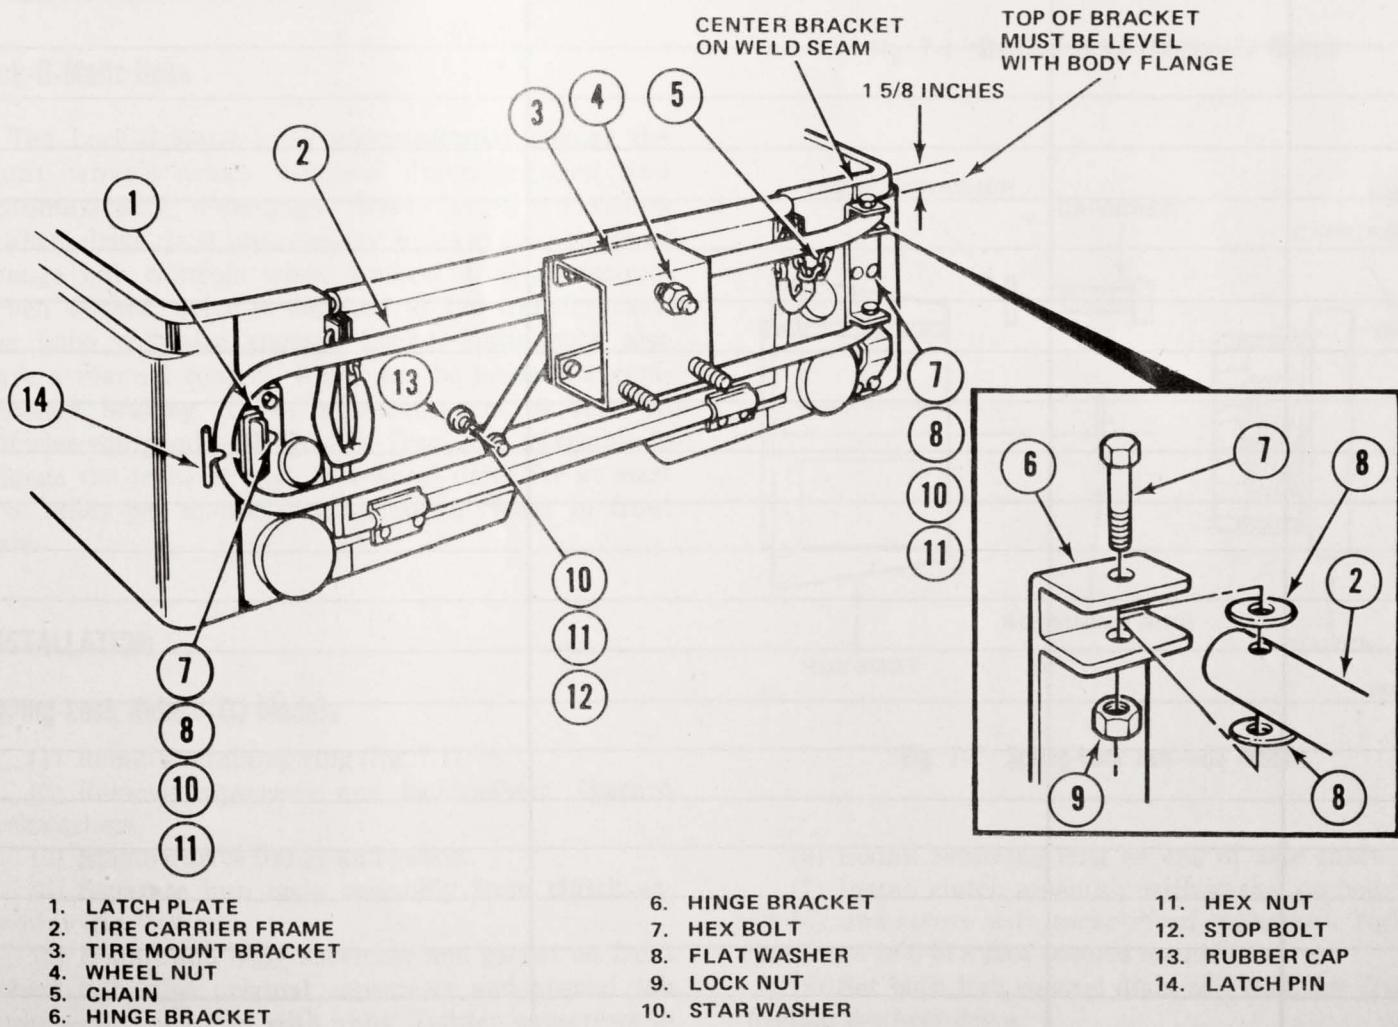

Fig. 6-5 Swing-Out Tire Carrier Installation
The swing-out tire carrier kit should contain the components shown in figure 6-5. Before beginning work, check to see that all items have been included.
(1) Position hinge bracket on body and center over vertical seam on right corner of vehicle body (fig. 6-5). Mark and drill 3/8-inch holes.
(2) Install hinge bracket using hex-head bolts, flat washers, star washers, and hex-head nuts. Tighten nuts to 18 foot-pounds torque.
(3) Position tire carrier frame in hinge bracket and install hex-head bolts, flat washers, and locknuts.
(4) Spread split-link of right tailgate chain and attach first link of chain. Close split-link of tailgate chain.
(5) Attach free end of chain to hook welded to tire carrier frame.
(6) Position latch plate on latch pin and hold against vehicle body. Mark and drill 3/8-inch diameter holes.